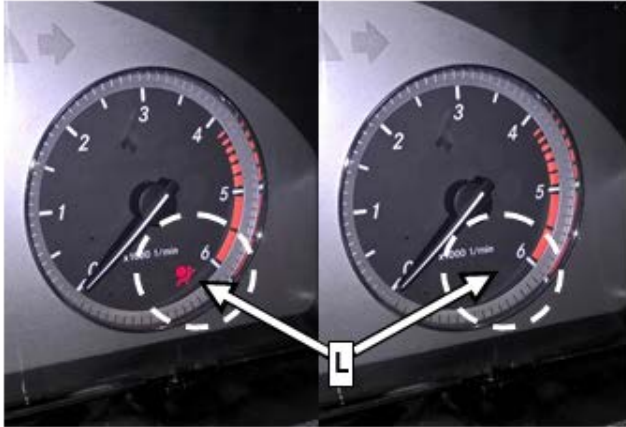

Figure 8
11. Start engine and check whether Supplemental Restraint System (SRS) indicator lamp (**Figure 8/9**) goes out after a few seconds.